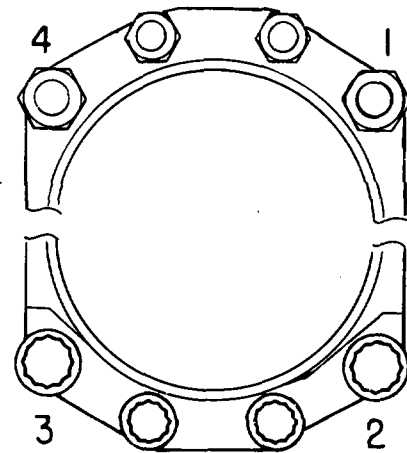
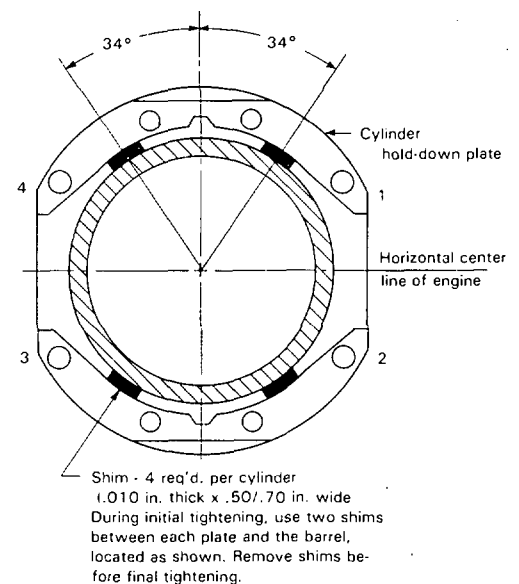

Figure 12. Sequence for Tightening Cylinder Basenuts
Figure 13. Location of Shims Between Cylinder Barrel and Hold-Down Plates
5. Install cylinders on the pads from which the nuts were removed in the previous step. Initially tighten cylinder hold-down nuts, to a torque of 300 in. lb. (25 ft. lb.) in the sequence shown in Fig. 12. On engines with cylinder hold-down plates, follow instructions in Figure 13.
8. Using the same sequence as described in paragraphs 5 and 6, and shown in Figure 12, check all 1/2-inch nuts for tightness by bringing torque to 600 in. lb. (25 ft. lb.). Be sure shims are removed before final torquing engines using cylinder hold-down plates. On O-235 engines using 7/16-inch thru studs, retorque to 420-in. lb. (35 ft. lb.). Where 3/8-inch nuts are used, do not tighten more than 300 inches (25 ft. lb.).
2. Install the cylinder on its mounting pad. If the engine employs hold-down plates, shim as shown in Figure 13. Initially torque the 1/2-inch thru studs to 300 in. lb. (25 ft. lb.) per sequence in Figure 12.
3. Then remove all shims from hold-down plates, if fitted, and retorque the 1/2-inch thru studs to 600 in. lb. (50 ft. lb.) per Figure 12.
For those O-235 model engines using 3/8 inch thru studs, do not exceed torque of 300 in. lb. (25 ft. lb.). And if 7/16-inch studs are used, torque initially to 300 in. lb. (25 ft. lb.); then, following the same sequence in Figure 12, apply final torque of 420 in. lb. (35 ft. lb.).